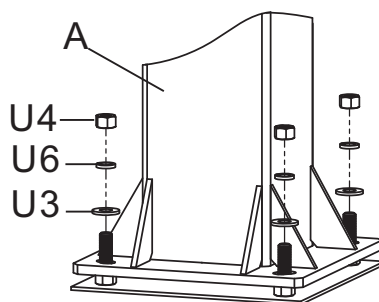
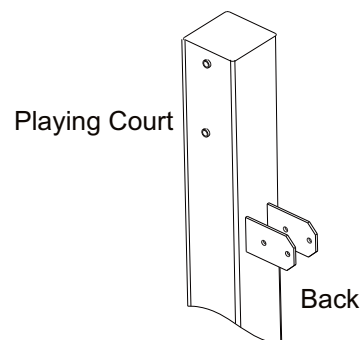

FIGURE 1B
FIGURE 1C
- B. Remove the Padding from Main Post (A). Place the Main Post (A) over the J-Bolts. Slide a 18mm Thick Washer(U3), a Lock washer M18 (U6) and thread a 18mm Hex Nut (U4) to each J-bolt. Tighten the Nuts only a few turns onto the J-Bolts as shown in FIGURE 1B.
- C. If the Main Post (A) is not exactly vertical, adjust the 18mm J-Bolt Hex Nuts(U4) located under the Post base. Tighten all of the Hex Nuts(U4) Above Post base when Main Post(A) is vertical.
NOTE: Face the Main Post(A) with Actuator Bracket facing away from playing court(as shown in FIGURE 1C).